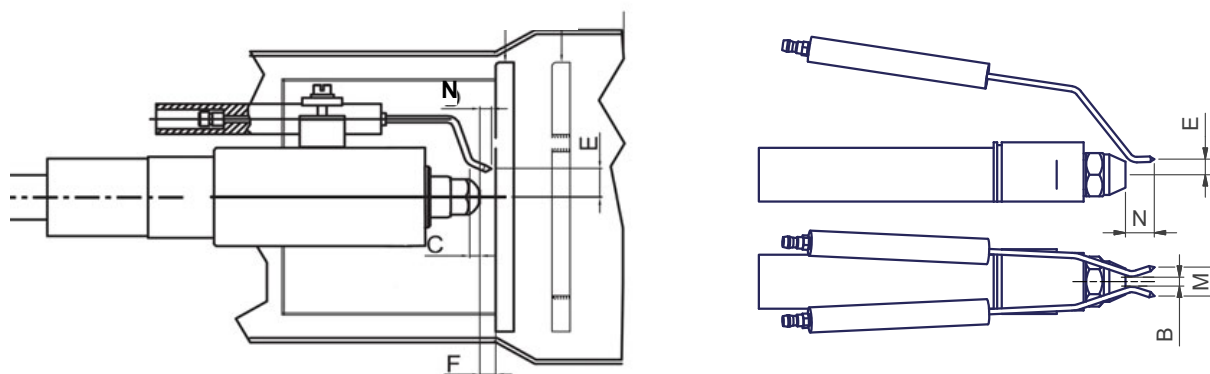
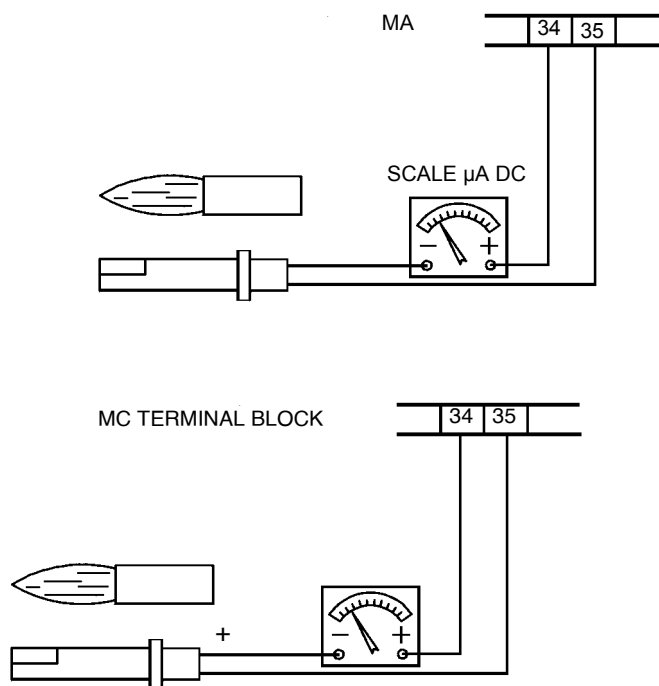

Fig. 26
Fig. 27
- Unscrew the oil connections E (Fig. 26) connecting the flexible pipes to the gun L and remove the whole assembly as shown in Fig. 26-Fig. 27.